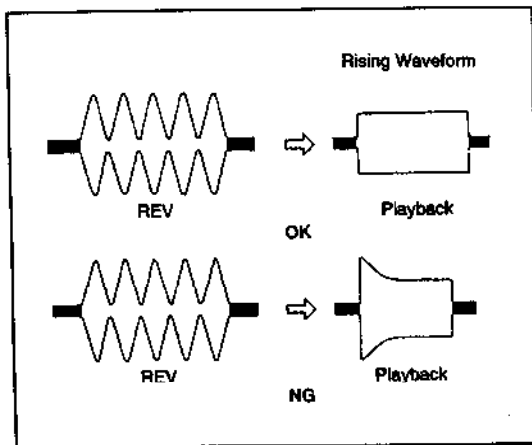

Fig. 4-9.
- 6) If the waveform is not normal (See Fig. 4-9), turn the upper flange ③ of the No. 2 guide (TG-2) ④ 90° counter-clockwise and repeat step 5.